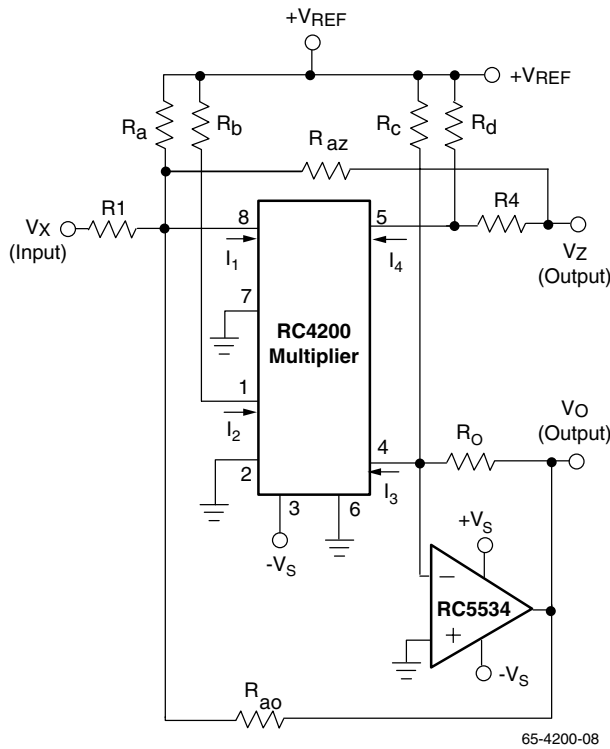

Figure 6. Extended Range Divider
1. Refer to Figure 6 for example.
3. These specifications apply with output ( $I_3$ ) connected to an op amp summing junction. If desired, the output ( $I_3$ ) at pin (4) can be used to drive a resistive load directly. The resistive load should be less than  $700\Omega$  and must be pulled up to a positive supply such that the voltage on pin (4) stays within a range of 0 to +5V.